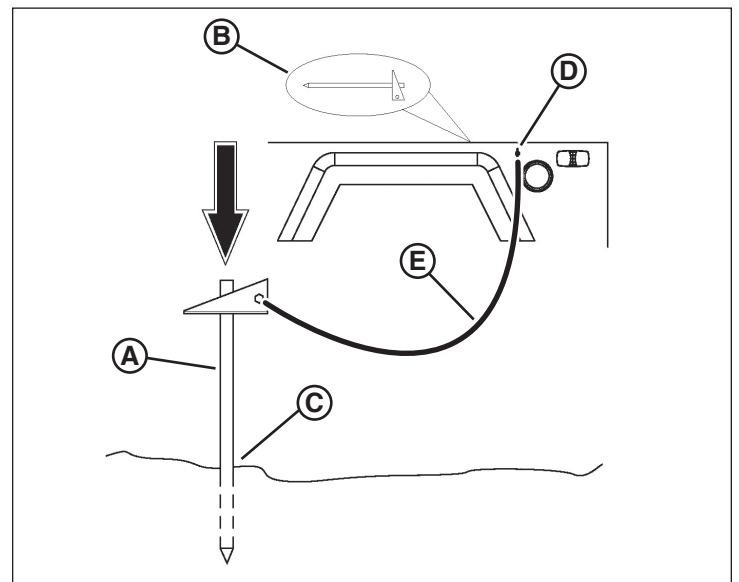

Figure 13
- Remove the ground rod (A, Figure 13) from its storage location inside the engine compartment (B).
- Select a point in the work site ground (C, Figure 13) not more than 5 feet from the ground lug (D), located on the left side of the light tower trailer toward the rear. Using a mallet, drive the ground rod securely into the ground.
- Attach the ground rod cable (E, Figure 13) between the ground rod and the ground lug. Make sure the cable connections are tightened.